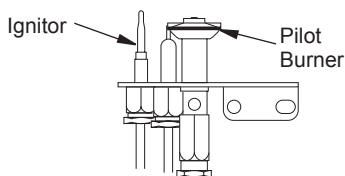

Figure 15 - Pilot
8. Light pilot burner with a match, (see Figure 15).